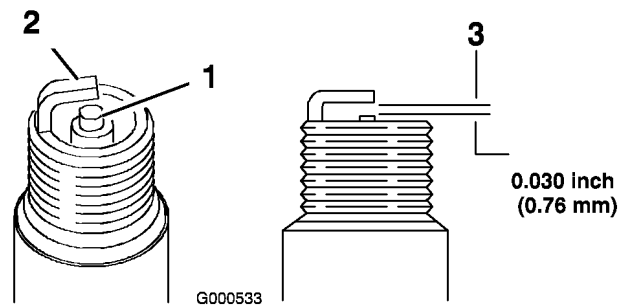

Figure 34
1. Look at the center of the spark plug(s) (Figure 34). If you see light brown or gray on the insulator, the engine is operating properly. A black coating on the insulator usually means the air cleaner is dirty.
2. Check the gap between the center and side electrodes (Figure 34). Bend the side electrode (Figure 34) if the gap is not correct.